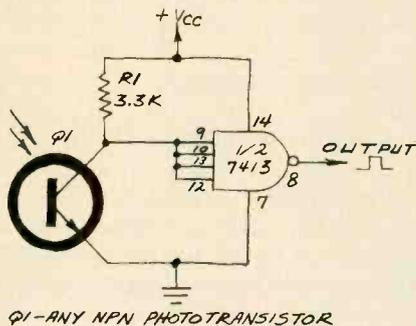

Fig. 4. Using half of a 7413 as a threshold buffer for a phototransistor.
**Schmitt Trigger Threshold Buffer.** Using the other half of the 7413 as a threshold buffer for a phototransistor is illustrated in Fig. 4. Assume the light